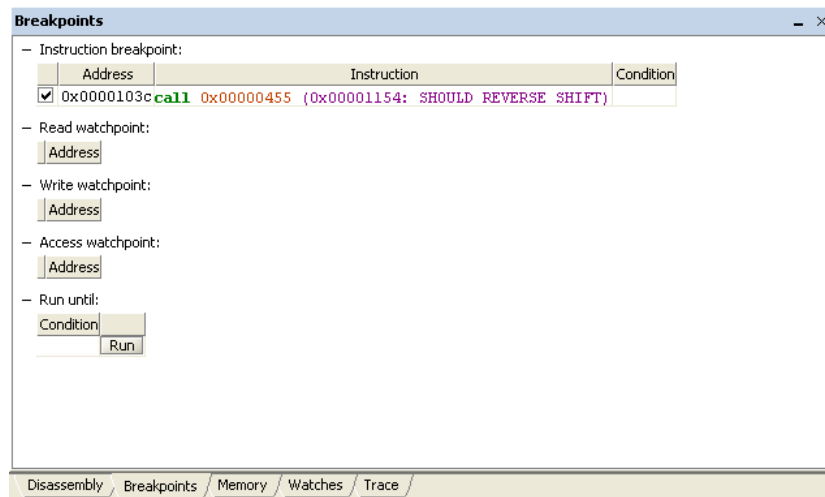

Figure 28. **Breakpoints** window.
1. Switch to the **Breakpoints** window, which is shown in Figure 28.